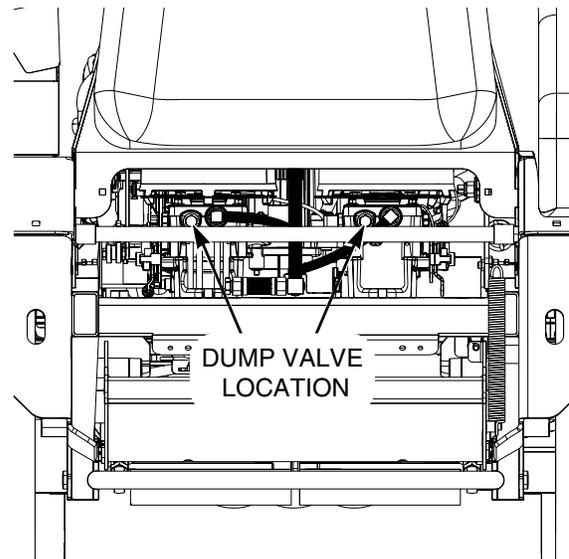

Figure 4-3. Dump Valve Controls
15. Dump Valve Controls (Figure 4-3). Located on the hydraulic pumps, used to "free-wheel" the mower. Rotating clockwise until they stop allows the unit to move under hydraulic power. The levers must be in this position and torqued to 7-10 lb-ft during operation of the mower. Rotating counter-clockwise allows the mower to be moved by hand (free-wheeling). See Figure 4-3.